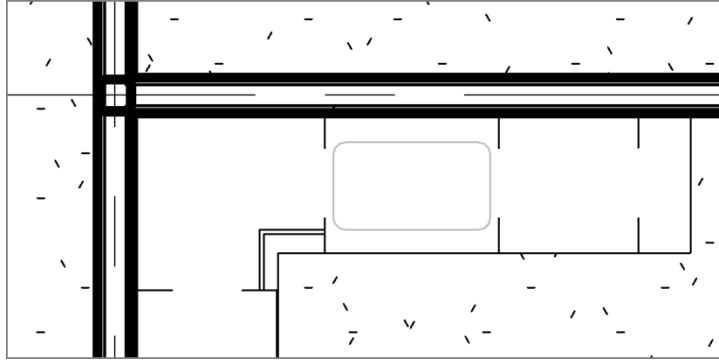

FIGURE 9.64: The completed corner
14. Stretch the grips until the filler resembles Figure 9.64.